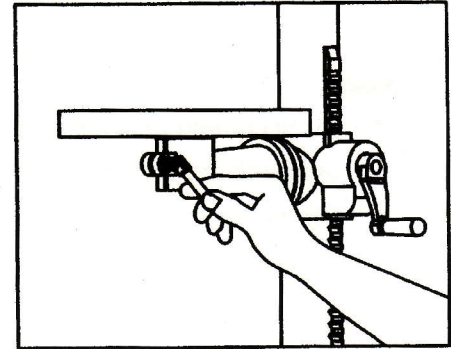

fig.6
**1. Install table and clamp with bolt. Fig. 6.**